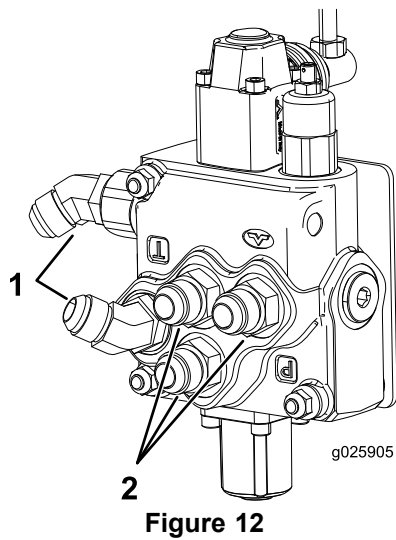

Figure 12
2. Attach the fittings to the valve as shown in Figure 12 and torque to 104 to 127 N-m (77 to 94 ft-lb).